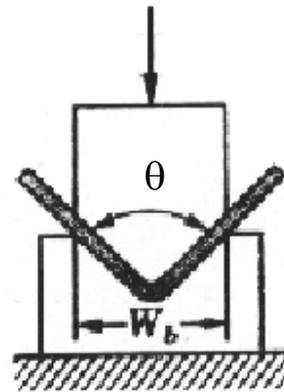

Figure 2: sketch of V-die bending
- You are given a sketch of the setup for bending operation as shown in Figure 2. The target angle for the bend is  $90^\circ$  and  $R_i = 2$  in. The process engineers aren't certain how much of an angle to specify for the initial bend. After assuming that the length of the bent region of the sheet,  $s$ , stays constant and doing some geometry, they used Eq. 1 to find that the difference between the initial and final bend angles will be approximately  $2^\circ$ . What value should they specify for  $\theta$ ?